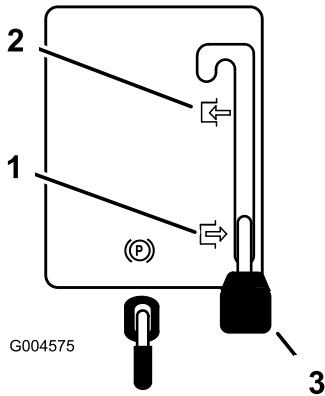

Figure 10
2. Shift the blade control (PTO) lever to Engage (Figure 10).
2. Shift the blade control (PTO) lever to Disengage (Figure 10).
4. Shift the blade control (PTO) lever to Disengage (Figure 10).